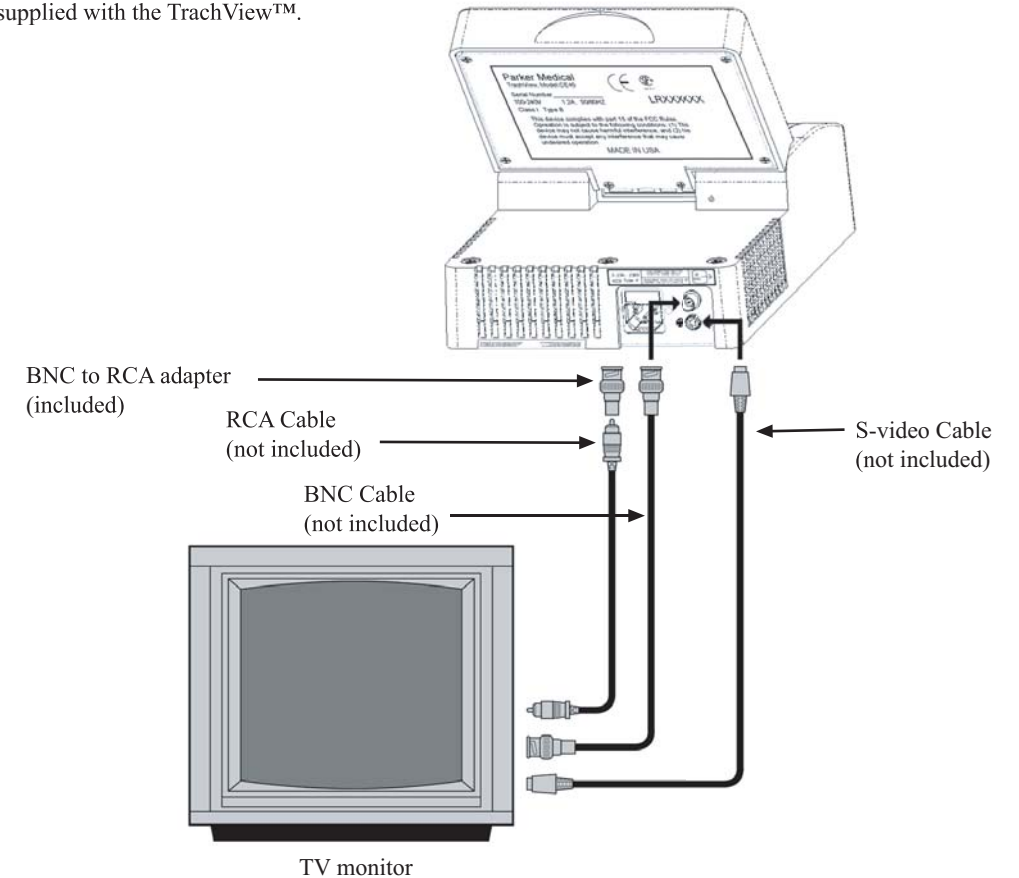
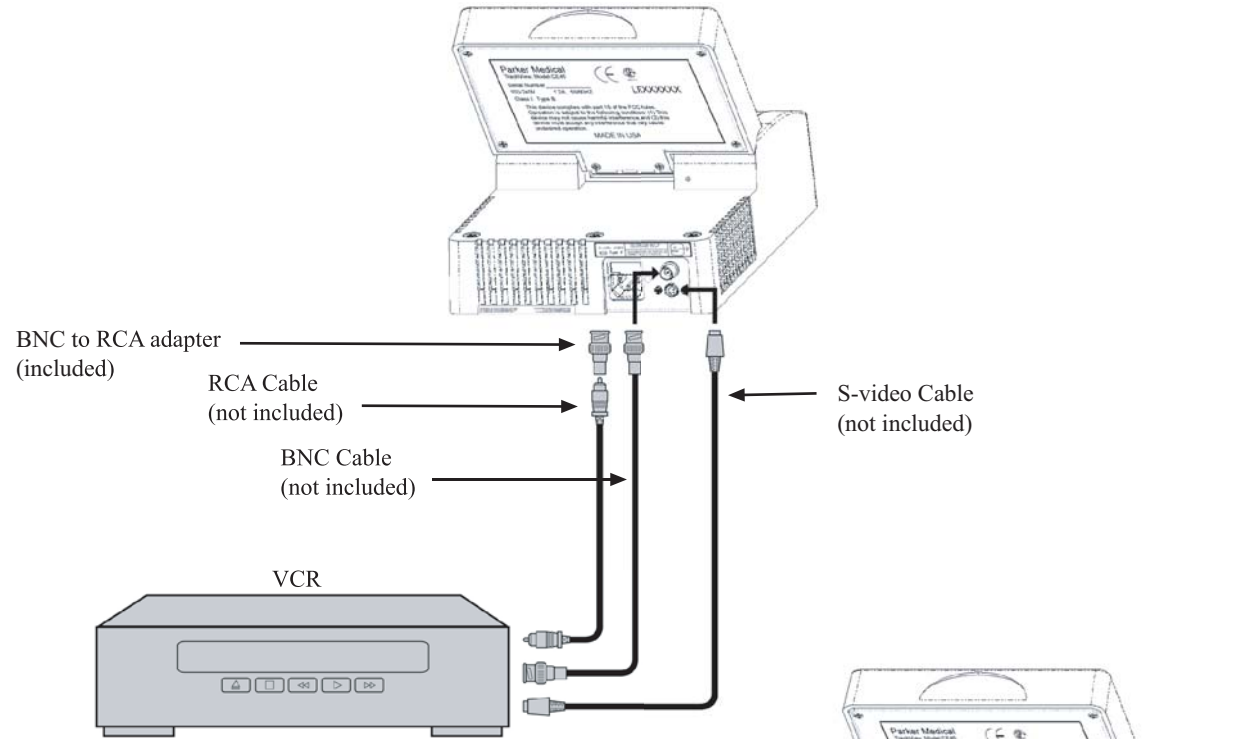
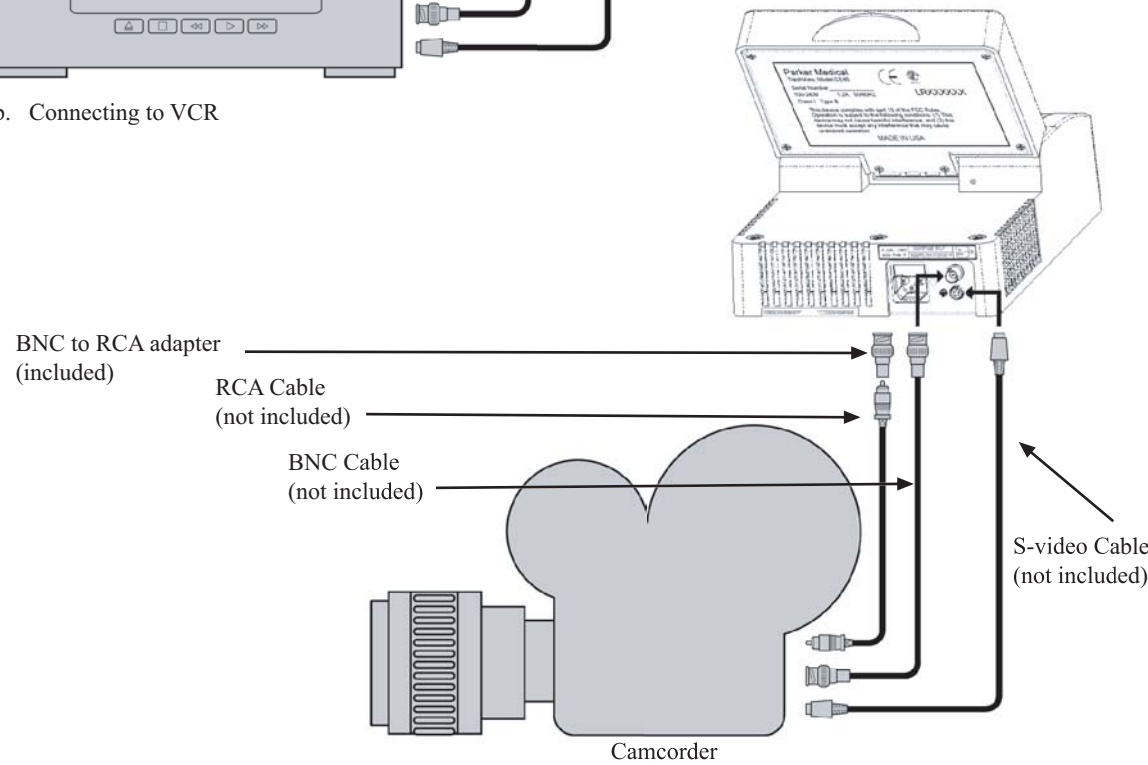

Figure 7a. Connecting to external monitors
Figure 7b. Connecting to VCR
Figure 7c. Connecting to camcorder
a. The TrachView™ can be connected to a standard video monitor or an S-VHS video monitor, or both. Consult your video monitor manual for the corresponding connections. Figure 7a
To make these connections, plug the connecting cable(s) into the video output(s) on the rear of the TrachView™ and the corresponding video input(s) of the external devices, as shown in Figure 7a, Figure 7b, and Figure 7c.
b. The TrachView™ can be connected to a standard VCR, consult your VCR manual for the corresponding connections. Figure 7b
c. The TrachView™ can be connected to a standard camcorder, consult your camcorder manual for the corresponding connections. Figure 7c